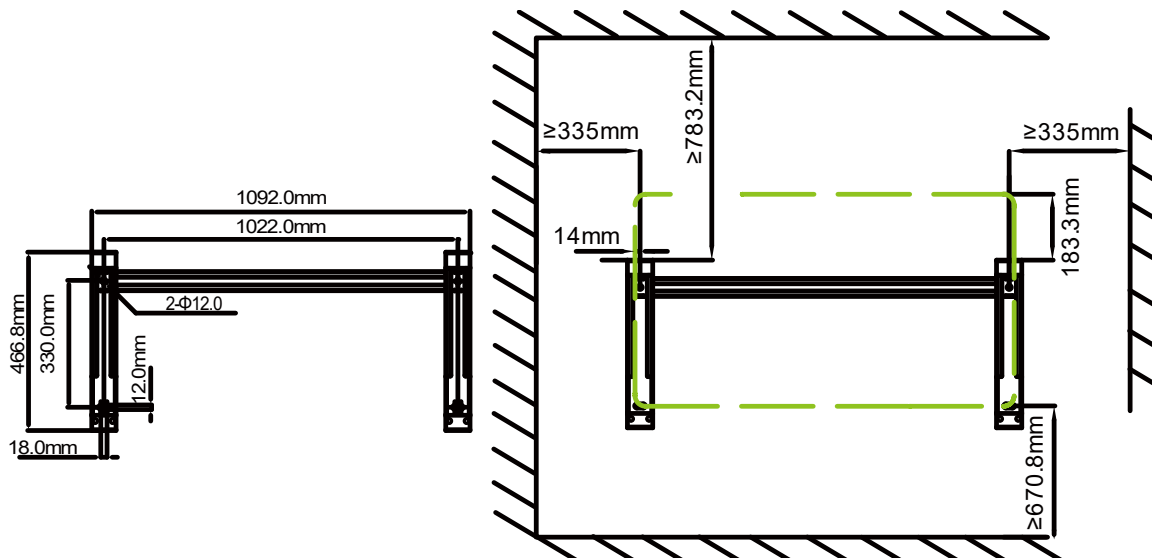

Fig. 3- 6 Mounting hole diagram
1. Mark the hole positions on the mounting structure according to the hole positions and sizes of the mounting bracket, as shown in Fig. 3- 6.